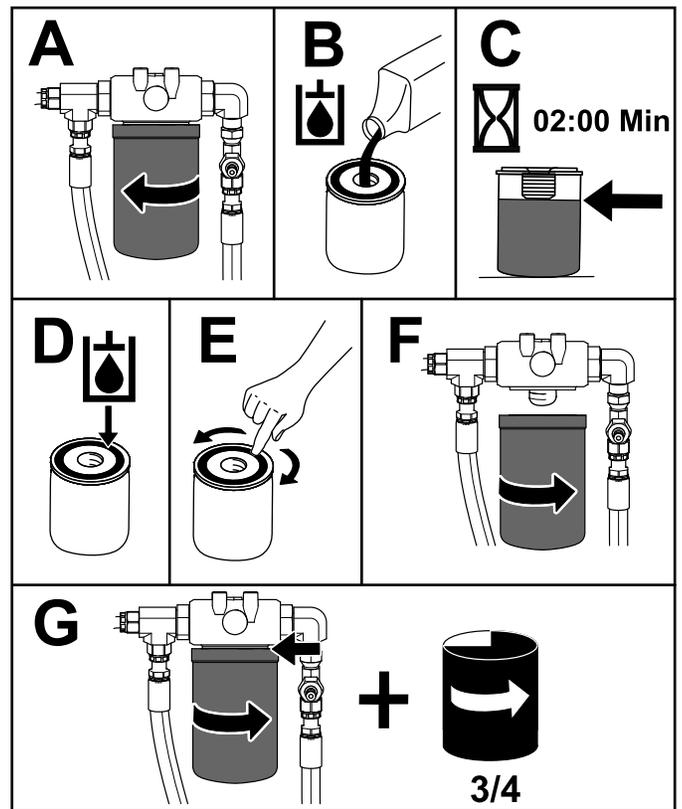

Figure 81
9. Place a drain pan under the rear filter and replace the filter (Figure 81).